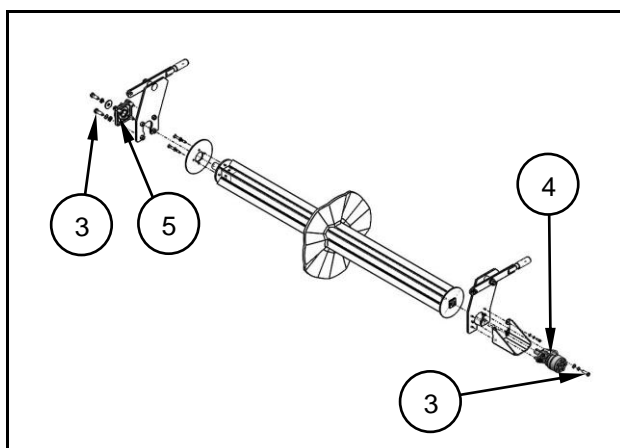

Fig. 6.3
- Loosen the screws (3) of the hydraulic motor (4) and the bearing (5) and remove (Fig. 6.3.)